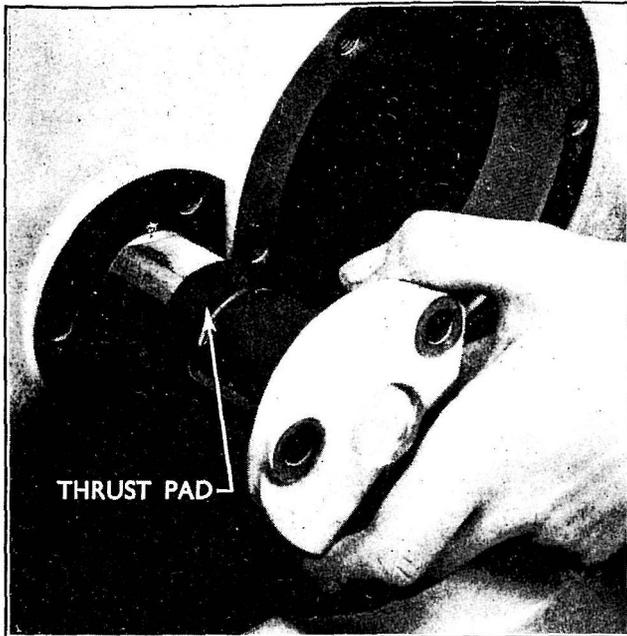

Fig. 178
- 4 Position the crown wheel and differential, and assemble the left-hand bull pinion housing and shims. Fit the thrust pad and secure with the three bolts (see Fig. 178).